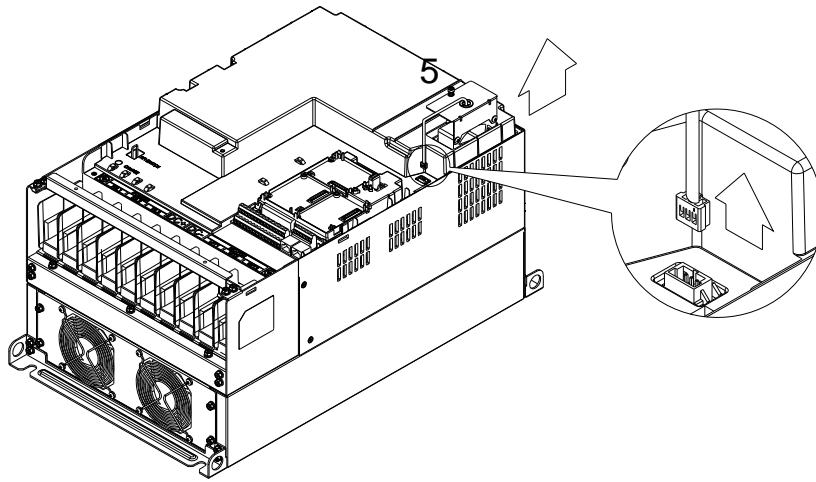

Figure 3
- Loosen screw 5 (figure 3) and disconnect fan power and pull out the fan. (As shown in the enlarged picture 3)